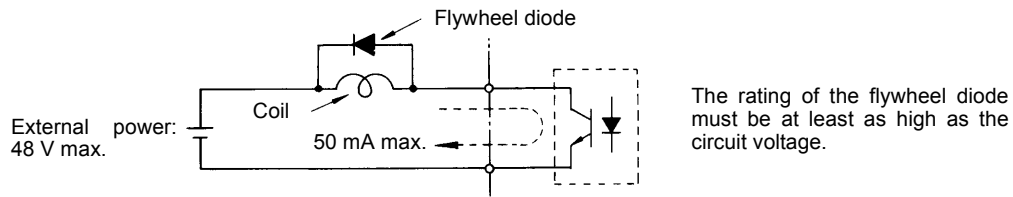

Fig 2.20 Flywheel Diode Connection
- \* 2. When driving a reactive load, such as a relay coil, always insert a flywheel diode as shown in Fig 2.20.